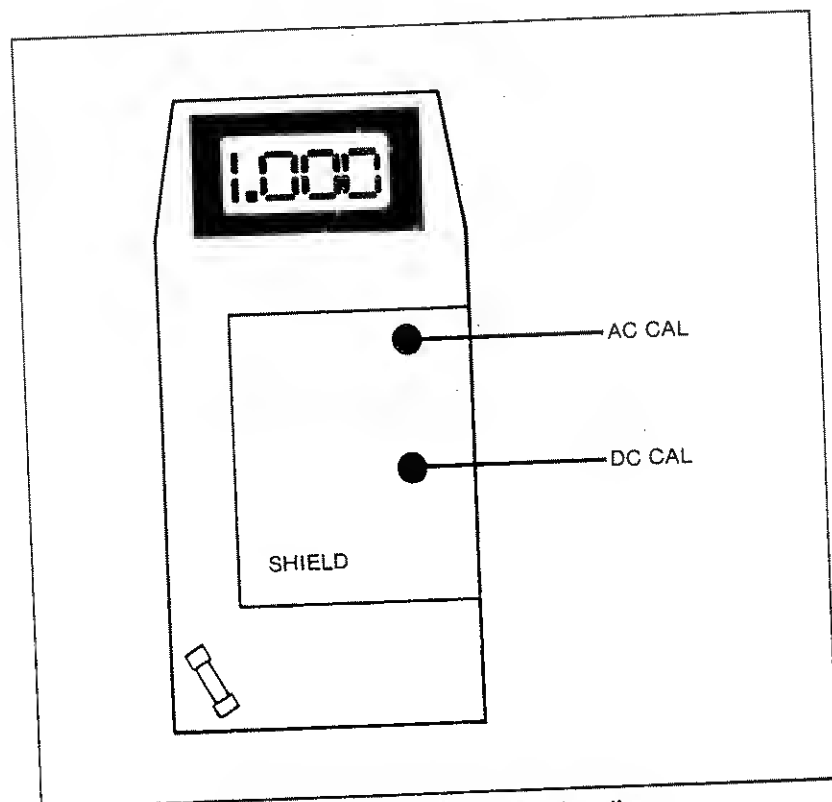

Figure 4-1. Calibration Adjustment Locations
6. Backup Fuse (F2), and all adjustments necessary to complete the calibration procedure are now accessible (see Figure 4-1).